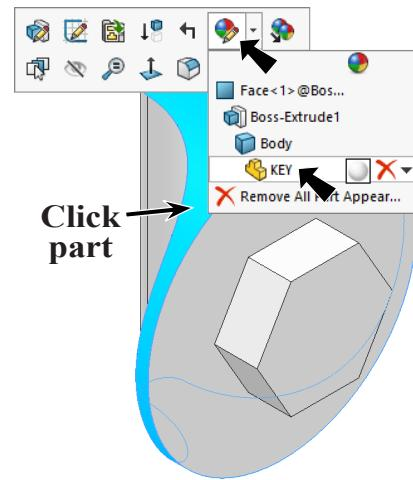

Fig. 22
Step 1. Click part, click **Appearance Callout**  on the context toolbar and click **KEY** , Fig. 22.